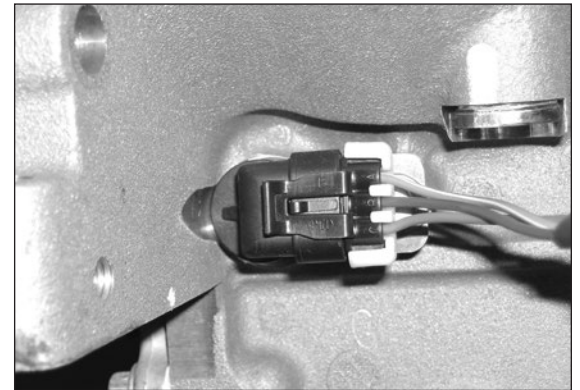

Figure 3 - Crankshaft Position Sensor
2. Locate the Crankshaft Position Sensor connector. Route this line down the passenger side rear of the engine, and connect it to the Crankshaft Position Sensor. The Crankshaft Position Sensor is located on the rear of the passenger side of the engine, just above the oil pan rail (**See Figure 3**).